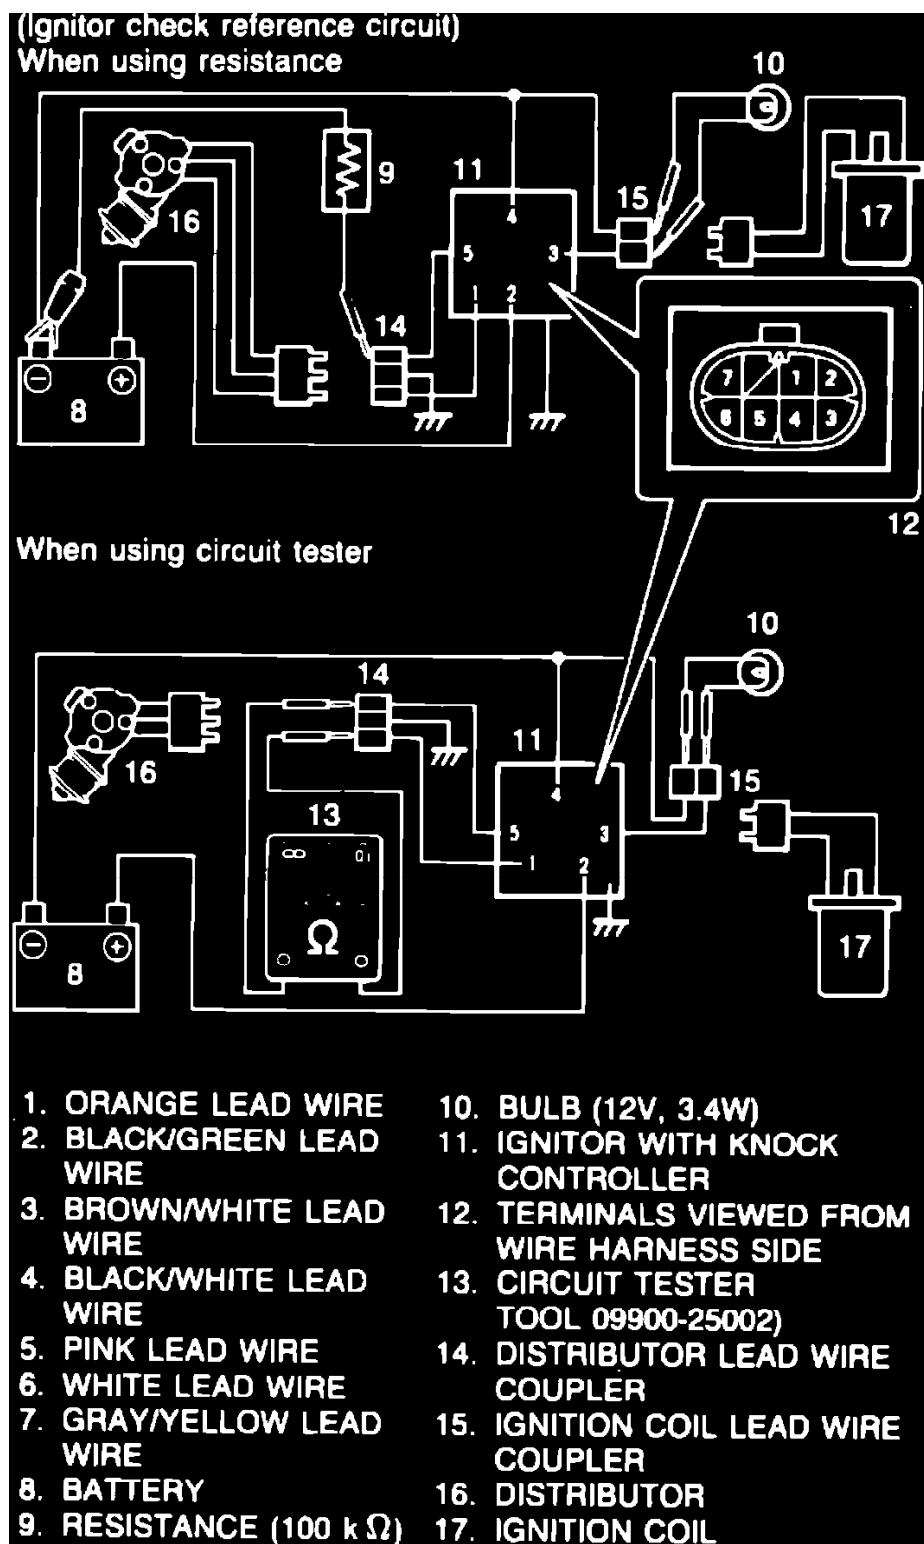

Fig. 8 Testing igniter w/knock controller. 1987 - 88 Models w/EFI & turbocharger
4. Connect 100 ohms of resistance between pink wire terminal of disconnected distributor connector and battery positive terminal, Fig. 8. If 100 ohms of resistance is not available, set circuit tester to ohms range, then connect positive probe of tester to orange wire terminal and negative lead to pink wire terminal, Fig. 8.